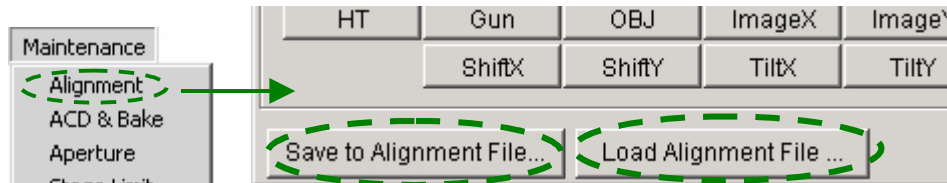

Fig. 5.62 Alignment Panel for Maintenance window (Saving and reading alignment data)
- ◆ Select **Maintenance** from the **TEM Controller** menu bar and click on **Alignment** to open the **Alignment Panel for Maintenance** window (☞ Fig. 5.62).
1. Click on **Save to Alignment File...** (☞ Fig. 5.62).
1. Click on **Load Alignment File...** (☞ Fig. 5.62).